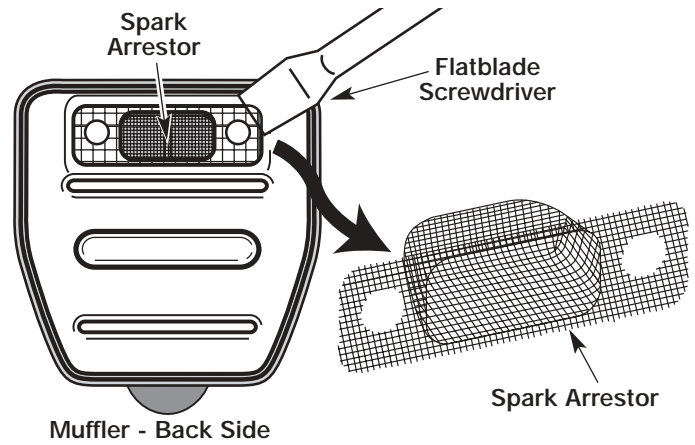

FIGURE 41
4. Using a small flatblade screwdriver, carefully pry up the spark arrester from the recessed hole, Figure 41. Remove the spark arrester from the muffler.
5. Clean the spark arrester with a wire brush. Replace if it is damaged or unable to thoroughly clean, Figure 41.